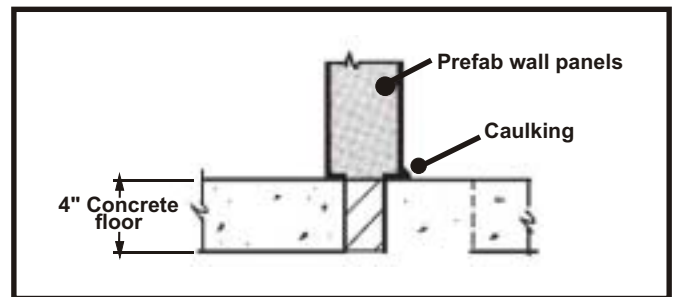

Fig. 23
- K. With installation complete, caulk the bases of the vertical panels where they meet the concrete floor. See fig. 23.